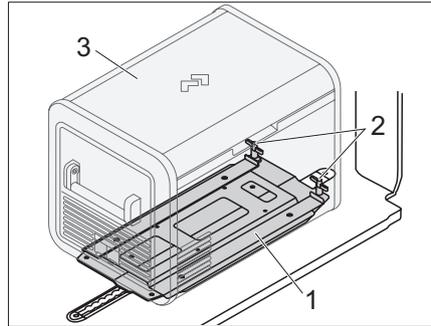

Fig. 81 Bracket (special equipment)
- ▶ Place the icebox (Fig. 81,3) in the bracket (Fig. 81,1) .
- ▶ Attach the icebox with the toggles (Fig. 81,2) .